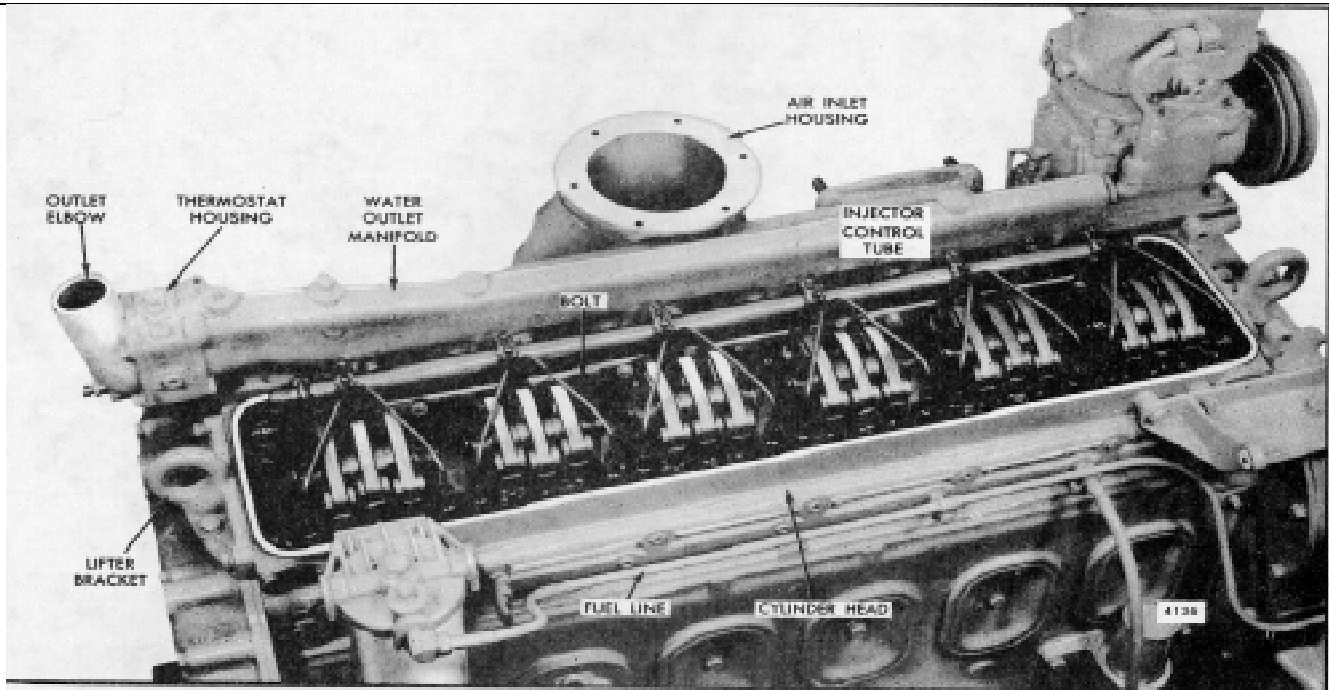

Fig. 3 - Typical Mounting of Cylinder Head
with accessories that affect cylinder head removal, note the position of each before disconnecting or removing them to ensure correct re-installation. Then refer to Fig. 3 and remove the cylinder head as follows:
5. Disconnect the fuel lines at the cylinder head and remove the fuel filter (Fig. 3).